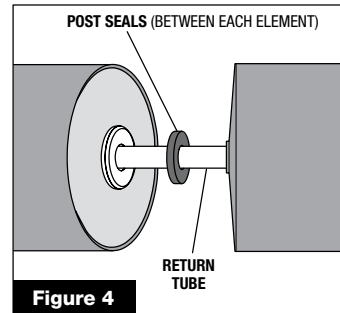

Figure 4
- 12 Load all the elements onto the return tube making sure there is a post seal between each element (**figure 4**).